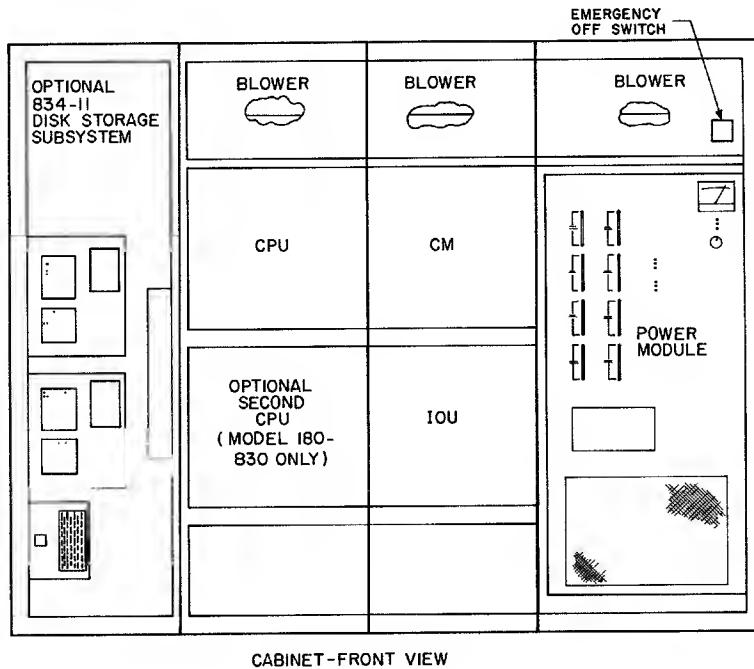

Figure 1-1. Cabinet Front View
memory (CM), the input/output unit (IOU), and power module as shown in figure 1-1. Table 1-1 lists the computer system specifications. Table 1-2 lists the system standard options. Table 1-3 lists the motor generator options.